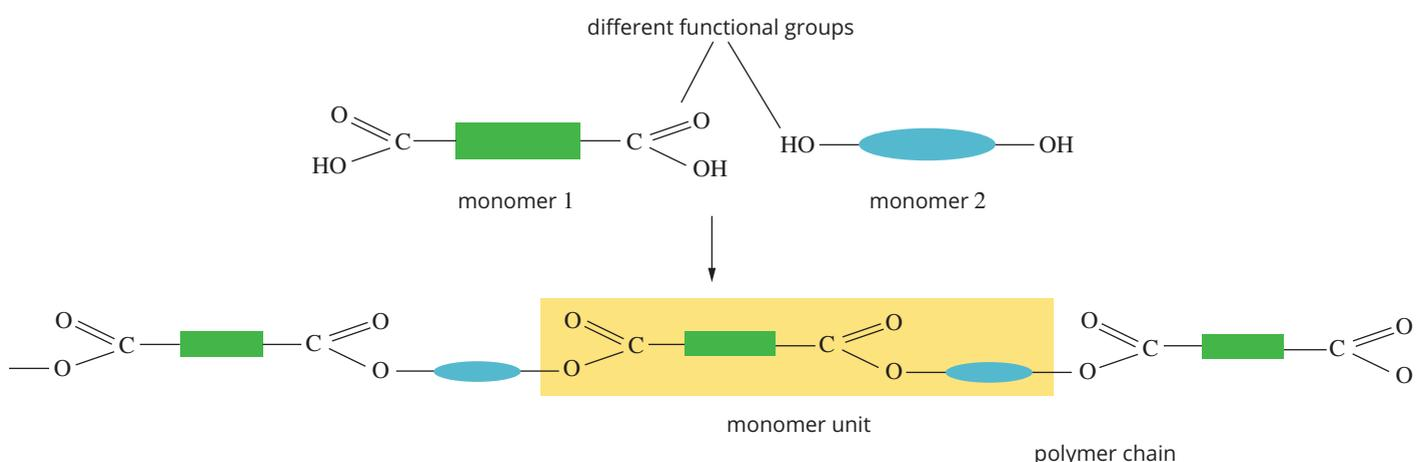

FIGURE 12.1.4 Forming a condensation polymer from two kinds of monomers that have functional groups that are different from each other
- With two monomers that each have two of the same functional groups, like the monomers that are reacting together in Figure 12.1.4 on the following page. A polymer made from two different kinds of monomers is called a heteropolymer or copolymer. One of these monomers is a diol, which is a molecule that contains two hydroxy functional groups. The other is a dicarboxylic acid, which contains two carboxylic acid functional groups. Most of the polymers you saw in Unit 1 are copolymers, including the PET (polyethyleneterephthalate) that is used to make bottled water containers.